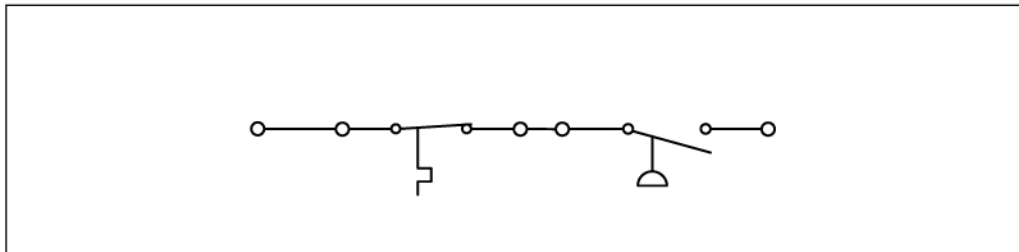

Figure 1
- a. In series with the blocked exhaust switch as part of the air proving switch circuit as shown in Figure 1.